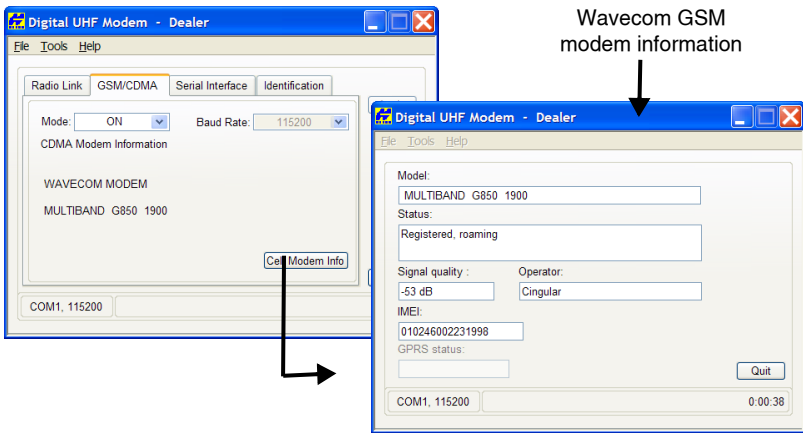

Figure 3-11. Enable the GSM Module/View GSM Parameters
3. On the *GSM/CDMA* tab, set the following parameters (Table 3-7 on page 3-18), and click **Apply** (Figure 3-11 on page 3-19).
The Wavecom GSM modem can either be in the US GSM band (GSM 850/1900 MHz as in Figure 3-11 on page 3-19) or the European GSM band (900/1800 MHz).
5. Click on the *GSM/CDMA* tab (Figure 3-11 on page 3-19) to view GSM modem information, and then click **Quit** to return to the previous screen.
7. Click **Apply** (Figure 3-11), and then click **File ▶ Disconnect**.